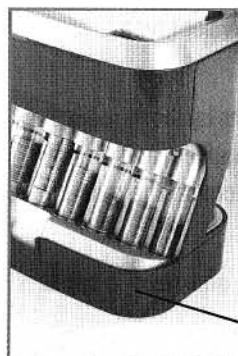

Figure 4
1. Make sure you switch off the sorter, then GENTLY slide out the COIN TUBE DRAWER by pulling on the FINGER SLOT in front of the bank. (See Figure 4 & 5)